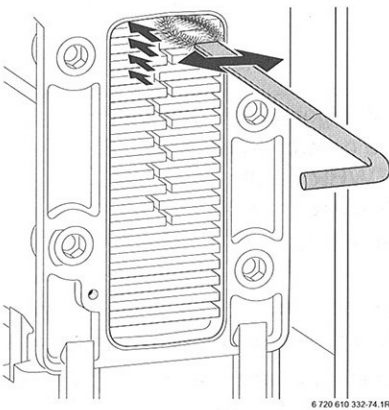

Fig. 48
- ▶ Clean the heat exchanger from top to bottom using the brush. Refer to fig. 48.